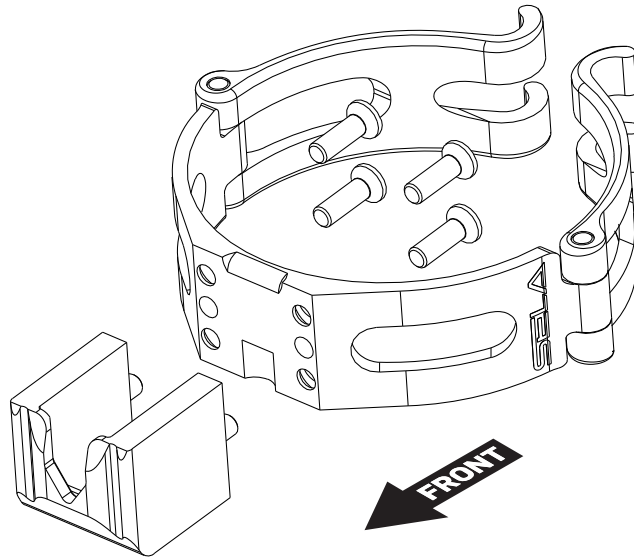

Figure 1: Exploded view of fork ring assembly showing correct part orientation.
19. Mate the receiver to the fork ring. Note the radiused edge on the front side of the fork ring. This edge should point in the same direction as the v-grooved end of the receiver (see **Figure 1** above).